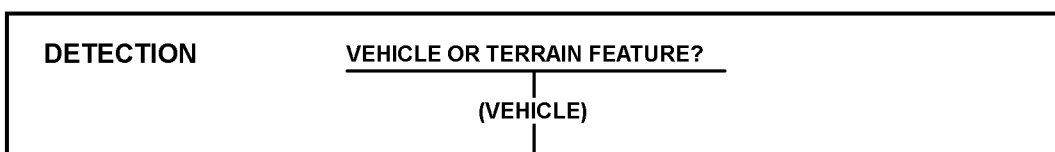

Figure C-26. Target acquisition—detection.
b. **Target Detection**. The first step in the target acquisition process is target detection (Figure C-26). During this step, the gunner scans his sector of fire to find or acquire a target using the TAS, mainly the NVS. Target detection describes the process by which the gunner visually locates and distinguishes the features of a vehicle from the surrounding terrain features. Some techniques that help detect targets are discussed below.